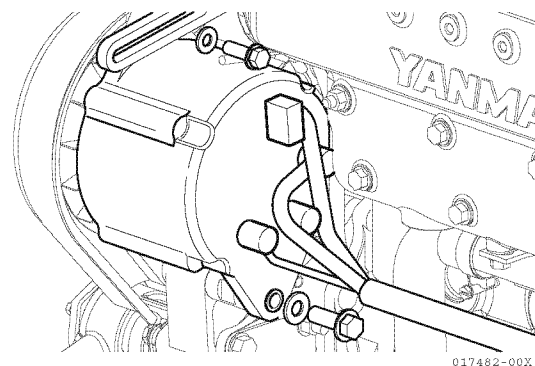

Figure 5-200
- 73. Connect the electric wires to the terminals before attaching the alternator to the gear case (Figure 5-200).